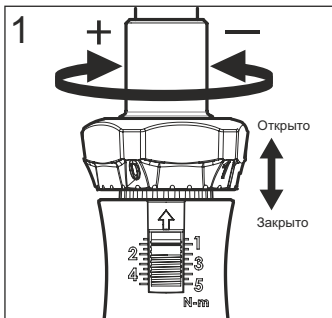

Рисунок 1 / Figure 1 (открыто / open, закрыто / closed)
To set the required tightening torque values, move the fixing nut (2) to the "open" position, turn it clockwise to increase the tightening torque, counterclockwise to decrease it (Figure 1).